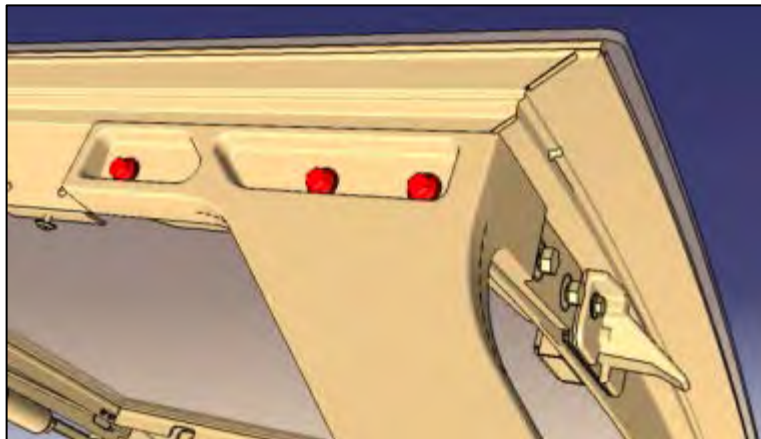

Figure 35
43. On the door upper arm top, inspect torque seal. (Figure 35)